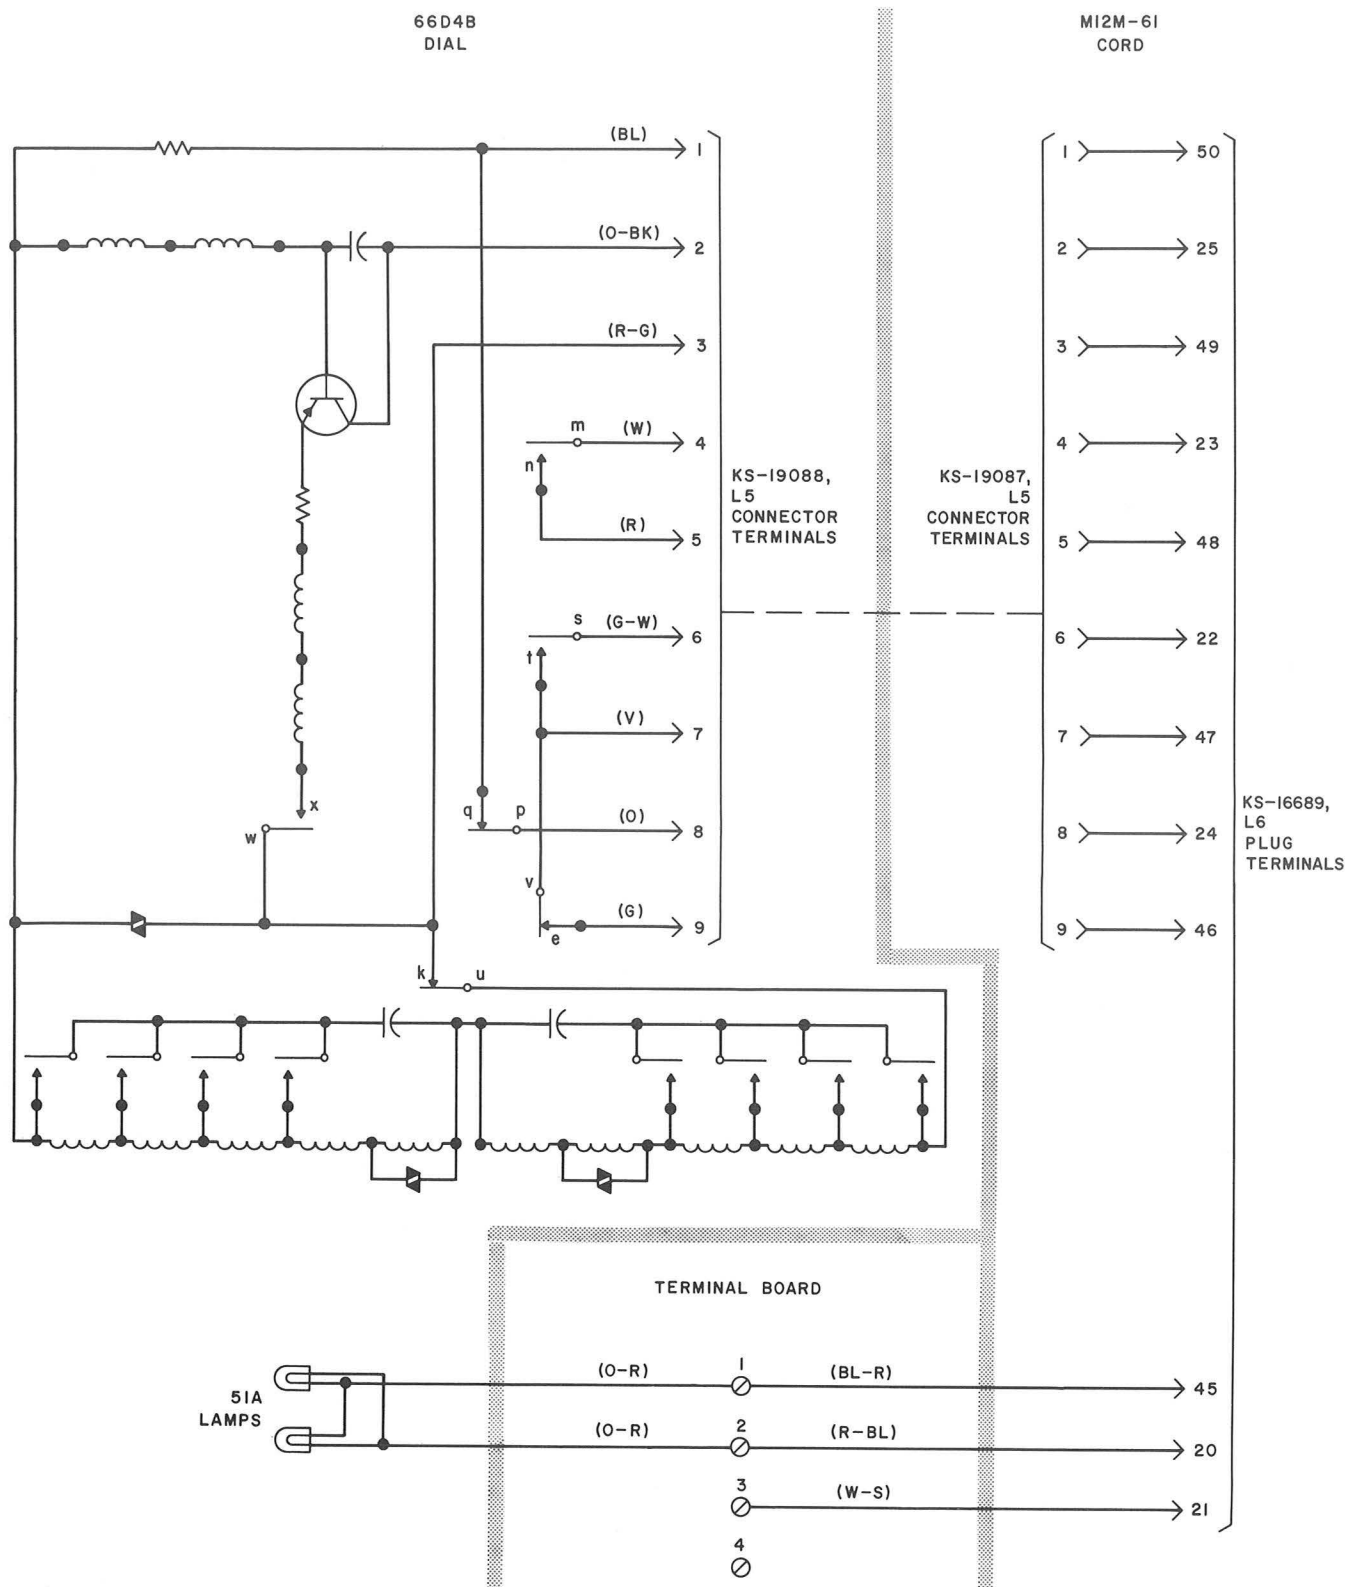

Fig. 5 — 1066D4B Dial, Connections
3.01 A schematic of the 1066A3A and 1066A4B dials with connections to a typical telephone set is shown in Fig. 4. These dials are identical except that the 1066A3A dial does not contain the two 53A illuminating lamps. Connections for the 1066D4B dial are shown in Fig. 5.